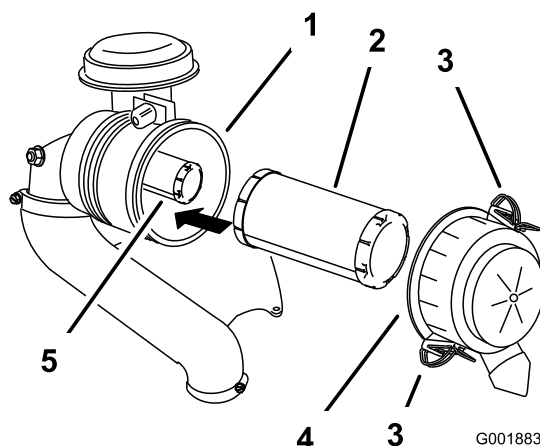

Figure 39
3. Release the latches on the air cleaner and pull the air-cleaner cover off the air-cleaner body (Figure 39).
5. Gently slide the primary filter out of the air-cleaner body (Figure 39).
2. If you are replacing the inner filter, carefully slide it into the filter body (Figure 39).
3. Carefully slide the primary filter over the safety filter (Figure 39).
4. Install the air-cleaner cover and secure the latches (Figure 39).